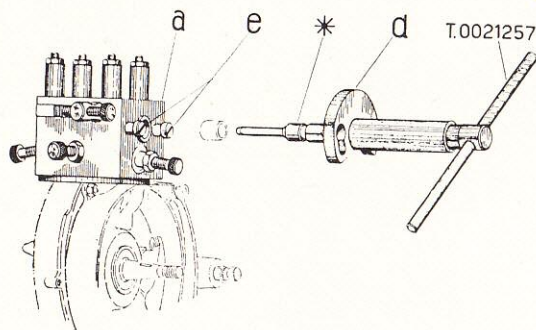

Fig. 85.
2. Remove the worn bush by means of extractor T. 0021257 provided with item "5" (marked with an asterisk), as shown in Fig. 85. Secure the flange "d" against block "a" of fixture T. 0022532 and lock it by means of screws "e"; slide the part No. "5" (asterisk) over the tip of the threaded mandrel T. 0021257, then insert the latter through the sleeve of the flange "d." Screw down until the worn bush is forced out.
3. Disengage flange "d" from screws "e" and check centralizing as prescribed in paragraph 1; then mount flange "d" again. Fit the new bronze bush by means of the tool T. 0021257 as shown in Fig. 85, replacing part "5" of the tool (marked with an asterisk) with the new bush to be assembled.